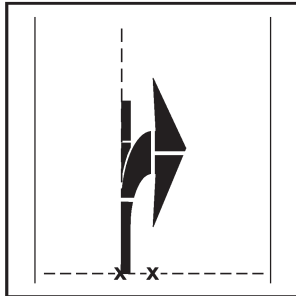

Figure 69
7. Lay the base of the straight arrow along the chalk line using the LEFT edge of the arrow (see Figure 69).